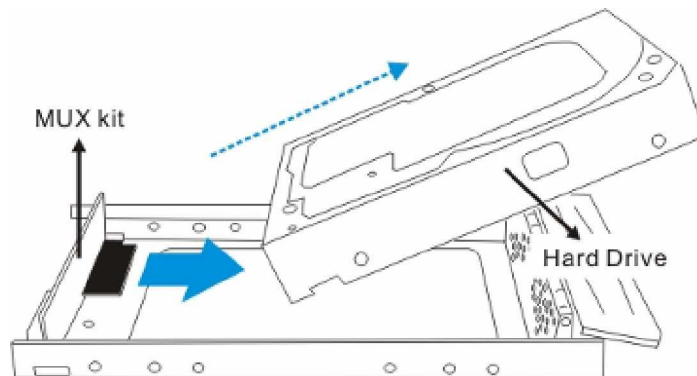

Figure 5-34: Removing the Hard Drive
**Step 6. Remove the hard drive from the drive tray.** Disconnect the drive from the MUX kit, and then remove the hard drive. (See *Figure 5-34*)